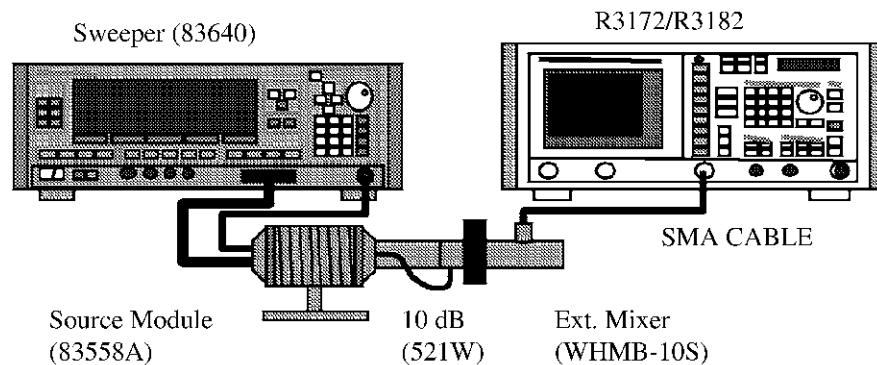

Figure 6-10 Setup of Noise Level Test
1. Connect equipment as shown in Figure 6-10.